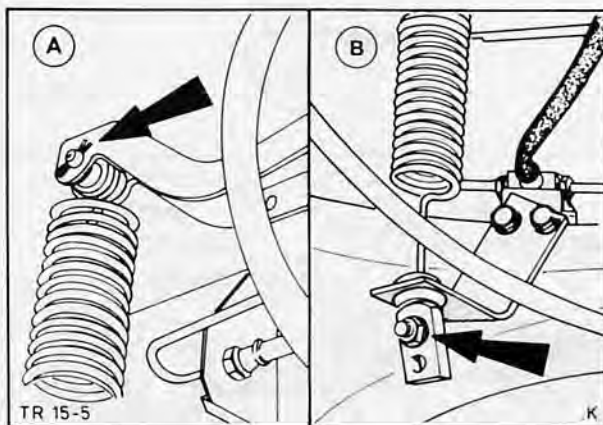

Fig. 10. Unhook spring of load-conscious brake valve
3. Detach brake pipes from brake hoses and unhook spring of load-conscious brake valve at the top, Fig. 10.